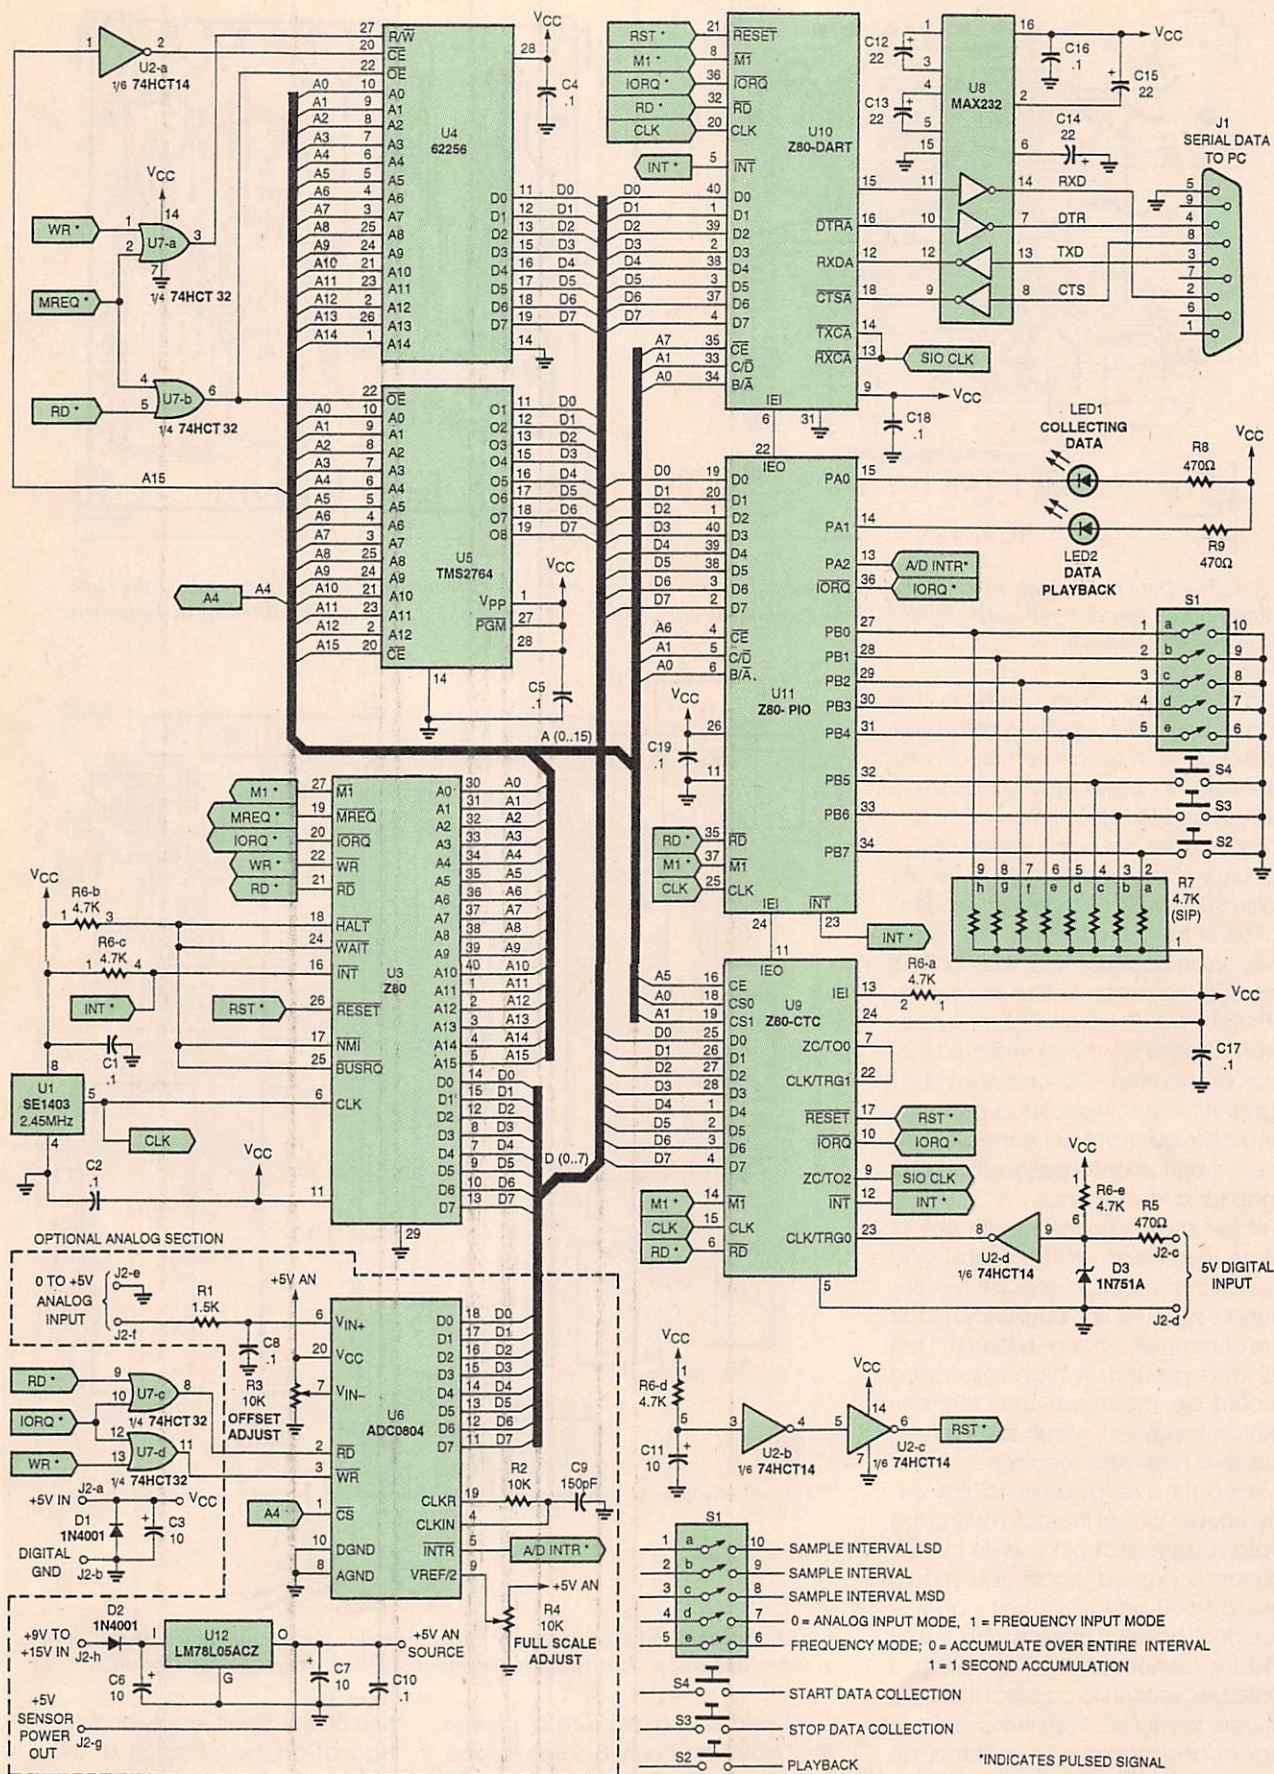

Fig. 2. Here's the schematic for the Versatile Data Logger.
**About the Circuit.** A schematic diagram of the Versatile Data Logger is shown in Fig. 2. The circuit is powered from a 5-volt power source that is connected to J2-a and J2-b. If analog inputs are to be used, an additional 9- to 15-volt source must be connected at J2-h. The 9 to 15-volt source connects to the 5-volt regulator, U12, and is used to supply power for the ADC, U6, and for the analog sensors. By using a separate regulator for the ADC, the effects of digital noise on the converter are minimized. Analog transducers with a 0- to 5-volt output are connected to J2-f and J2-e. To allow the circuit to be used with a wide variety of analog transducers, potentiometers R3 and R4 can be used to adjust the ADC-offset and full-scale settings, respectively.
1. Do you plan on using both analog and digital transducers? If yes, then you'll need to fully populate the circuit board with components. If, on the other hand, you plan to exclusively use the Data Logger with digital transducers, then you can omit the components in the Analog section shown in dotted lines in the lower left corner of Fig. 2.